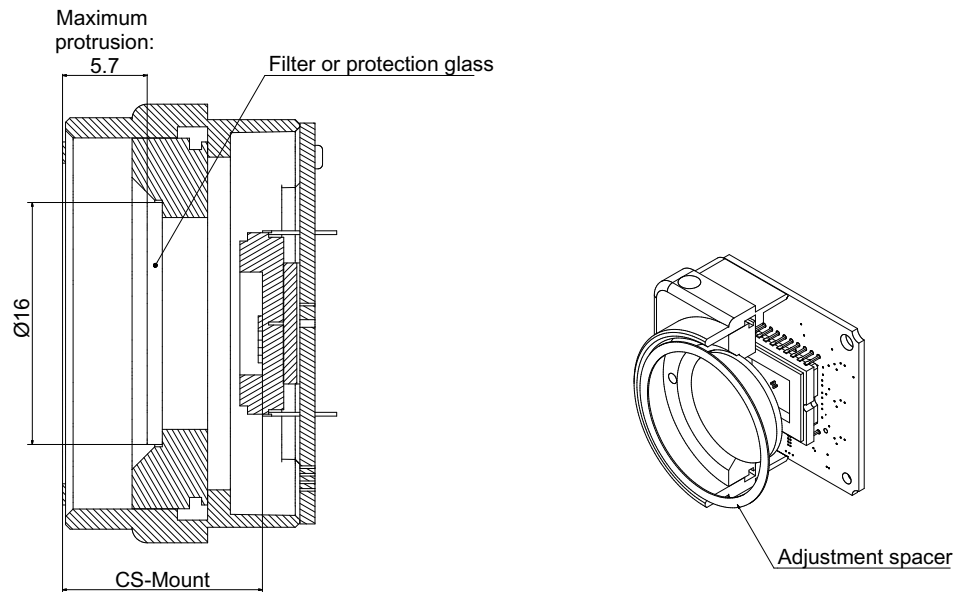

Figure 23: Guppy PRO CS-Mount dimension
- Mount only lenses or objects with less than 5.7 mm for maximum protrusion, see Figure 23.
Temporarily, a different filter holder was used. With V4.2.3 of this document, manufacturing returns to the previous filter holder. By mistake, Figure 23 was not updated for the temporary change. Therefore, it reflects the current state.
Please observe that maximum protrusion has temporarily been 8.2 mm. The **current value is 5.7 mm** as shown in Figure 23.